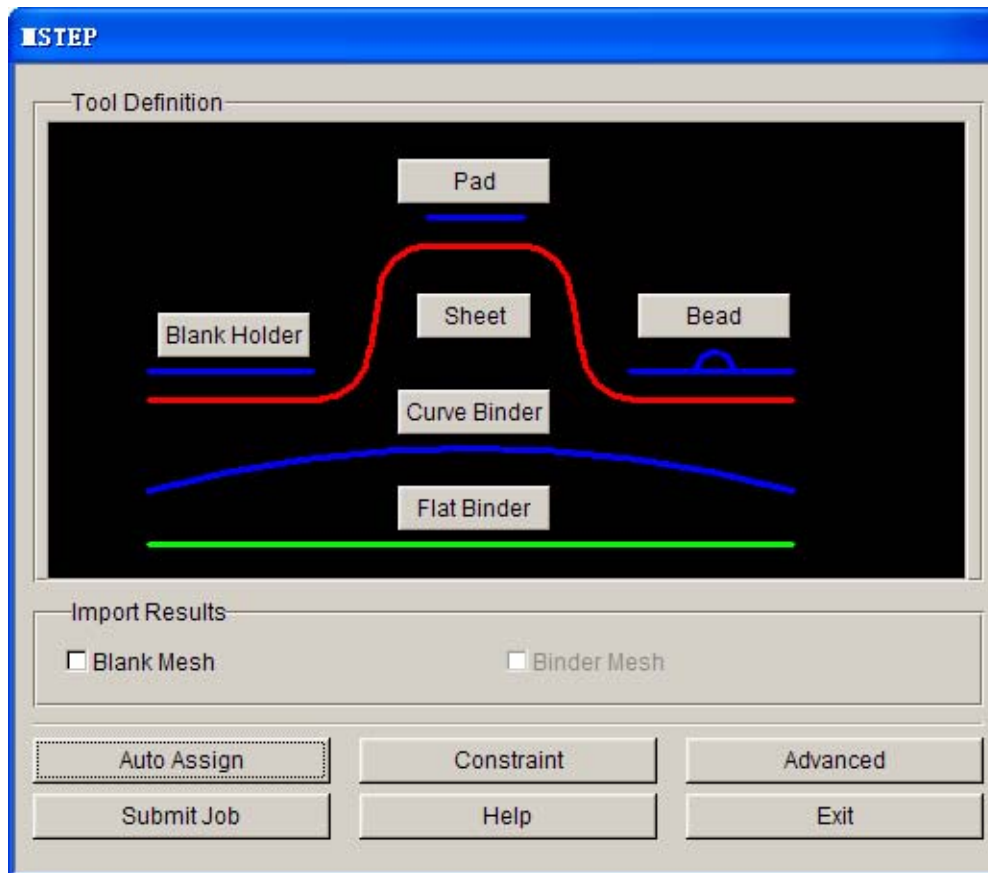

Figure 4.25: MSTEP GUI
2. The following figure is the Schematic View of MSTEP module. The module operation is simple, once assign the corresponding part to tool and select the solution mode; the simulation operation can be performed. See figure 4.25.